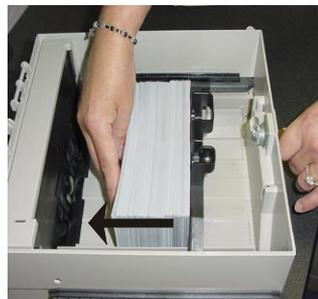

Figure 4-12. Load notes.
4. On cassettes that do not use a pusher-plate locking mechanism, release the pusher plate against the notes. If the cassette uses pusher-plate locking, turn the key to release the catch, allowing the pusher plate to compress the notes. (Figure 4-12)